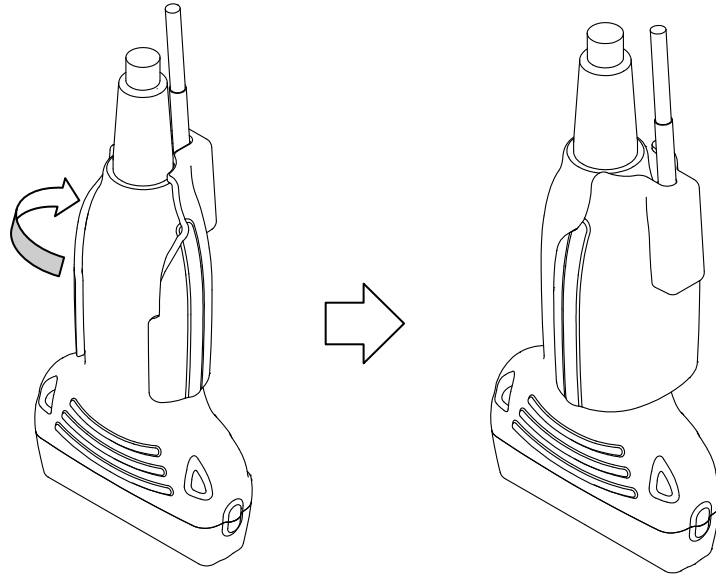

Fig. 10 How to release the Magnetic sensor attachment from the probe
- 1) Turn around the magnetic sensor attachment and release it from the probe as shown in Fig. 10.